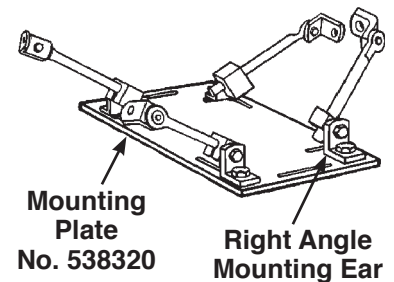

Figure 3
2. Fasten the universal mounting arms to the top of the mounting plate (No. 538320) using the washers and nuts provided. See Figure 3.